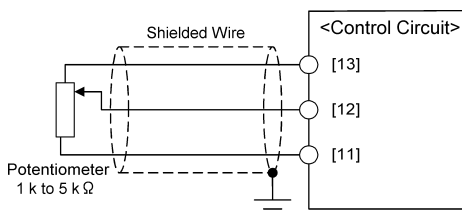

Figure 2.11 Connection of Shielded Wire
- Since low level analog signals are handled, these signals are especially susceptible to the external noise effects. Route the wiring as short as possible (within 20 m) and use shielded wires. In principle, ground the shielded sheath of wires; if effects of external inductive noises are considerable, connection to terminal [11] may be effective. As shown in Figure 2.11, be sure to ground the single end of the shield to enhance the shield effect.